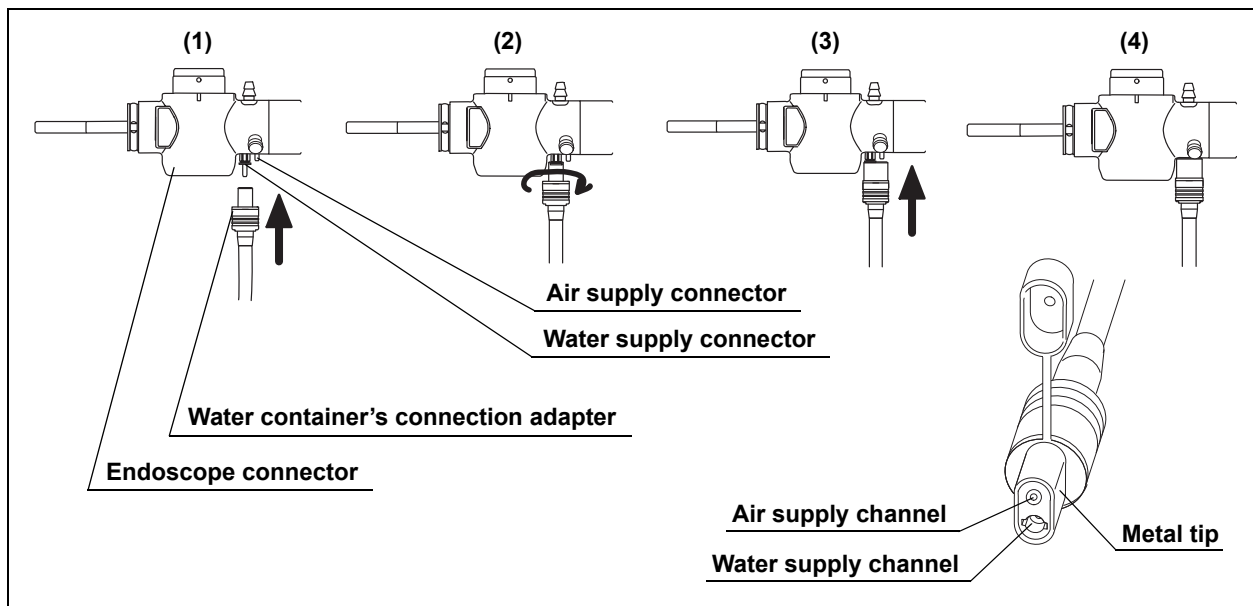

Figure 3.14
3. Place the water container's water supply channel onto the water supply connector on the endoscope connector at an angle of 90° and push it in until it stops (see Figure 3.14 (1)).
4. Turn the water container's connection adapter 90° clockwise to align the air supply channel with the air supply connector on the endoscope connector (see Figure 3.14 (2)).
5. Push the water container's connection adapter again until it stops (see Figure 3.14 (3)).
6. Confirm that the water container's connection adapter fits properly and that it cannot be rotated (see Figure 3.14 (4)).